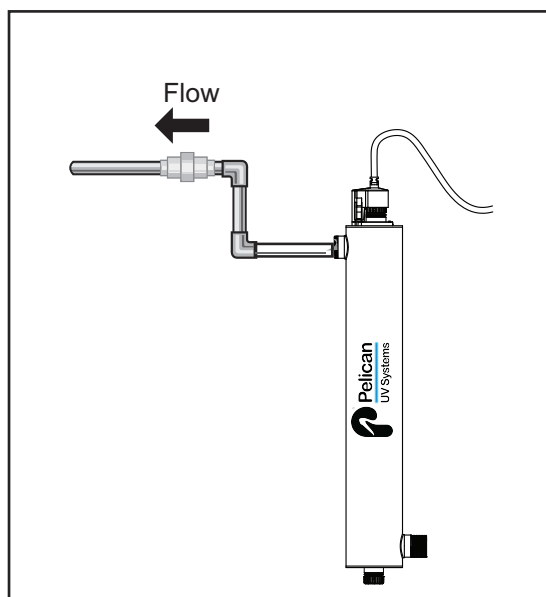

Figure 4 Flow
3. Mount the system to the wall using the supplied clamps. Various connection methods can be used to connect the water source to the system, however union type connectors are recommended. The use of a flow restrictor device will help to maintain the manufacturers rated flow. The flow restrictor should be installed on the outlet port and is designed to be installed in one direction only. Ensure that the flow of the water matches the flow direction as indicated on the flow restrictor. Refer to Figure 4.